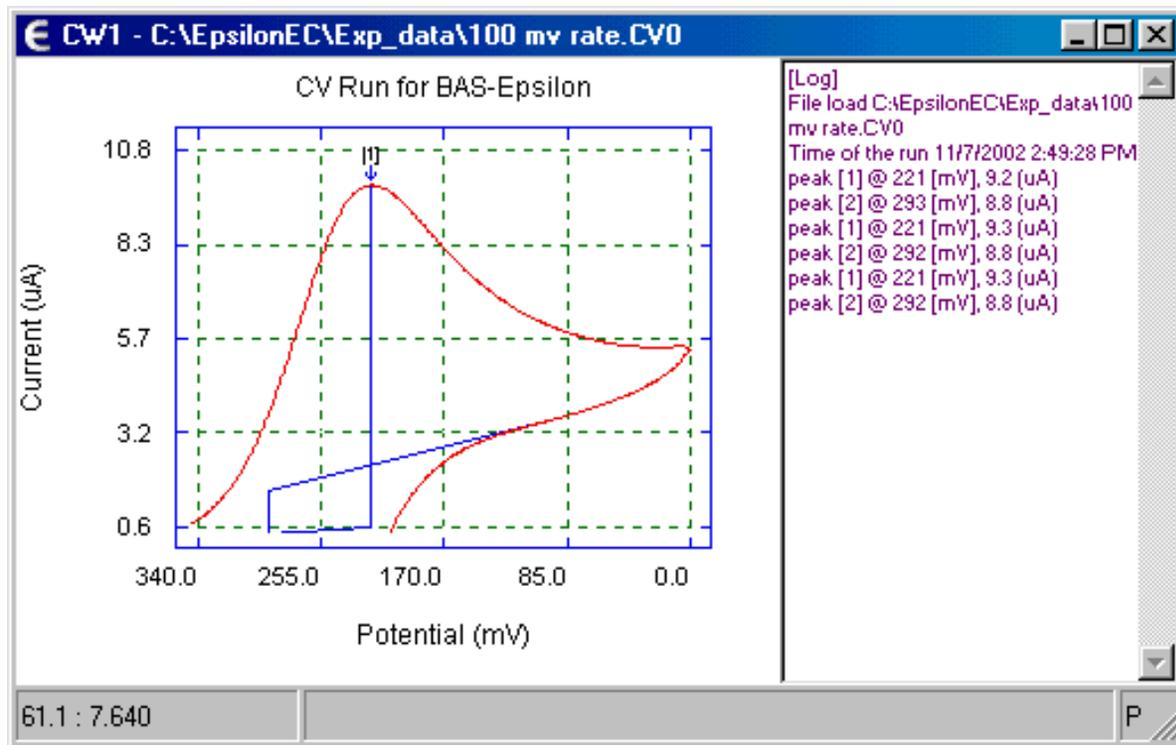
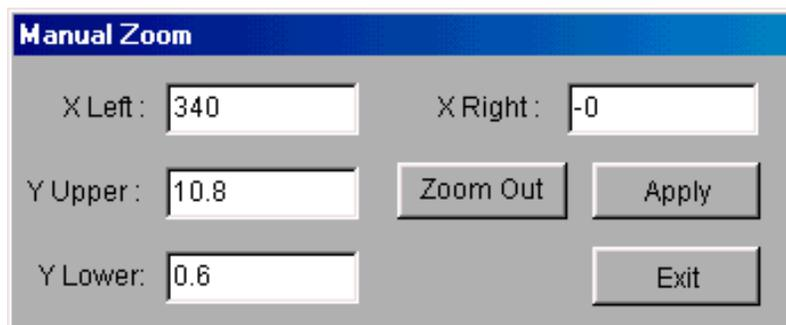

Figure 5.
Figure 6. Manual Zoom dialog box.
6. A specific area of the graphic can be enlarged by either using the mouse cursor (and the left mouse button) to define the area (Figure 5) or entering the x and y values in the **Manual Zoom** dialog box (Figure 6). The original graph can be restored using **Auto Zoom** in the **Graph-Display** menu.